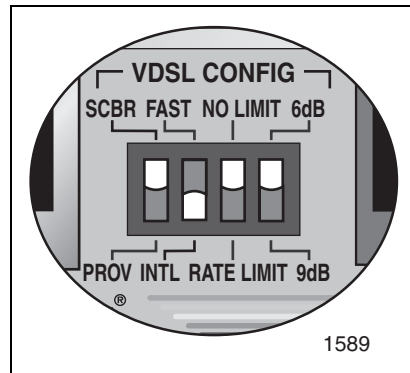

Figure 14. Configuring AT-MC605 Ethernet Extender for Provider Mode
1. Configure the right VDSL CONFIG switch (SCBR/PROV) to the SCBR position as shown in Figure 14 , "Configuring AT-MC605 Ethernet Extender for Provider Mode".